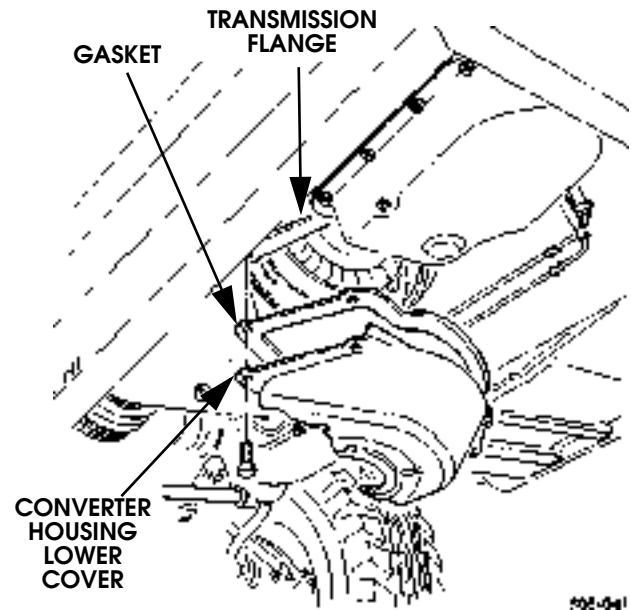

Figure 5-36: Converter Housing Lower Cover Mounting
3. Remove lower bolts and remove cover from transmission (Figure 5-36).